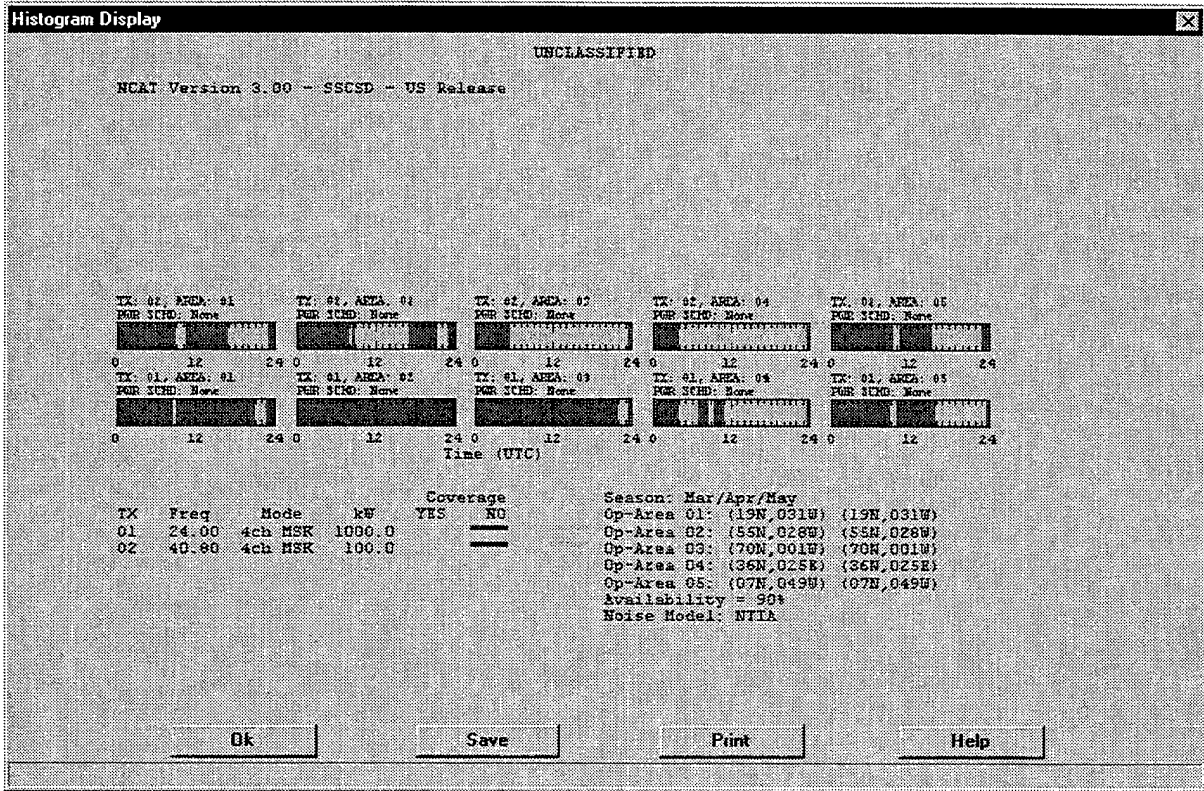

Figure 20. Example of a time availability plot.
- A time availability plot that shows copy/no copy periods for the selected transmitter operating area pairs. To perform a Time Availability plot, select Run Scenario -> Show Time Availability.... Figure 20 shows an example of the resulting hard copy.